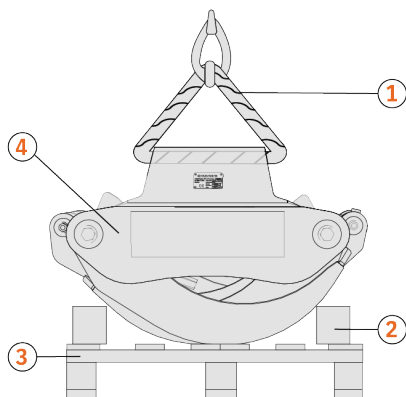

Fig. 11 Arrangement of the grapple at transportation or service
1. Place the grapple on a firm base. See Fig. 11